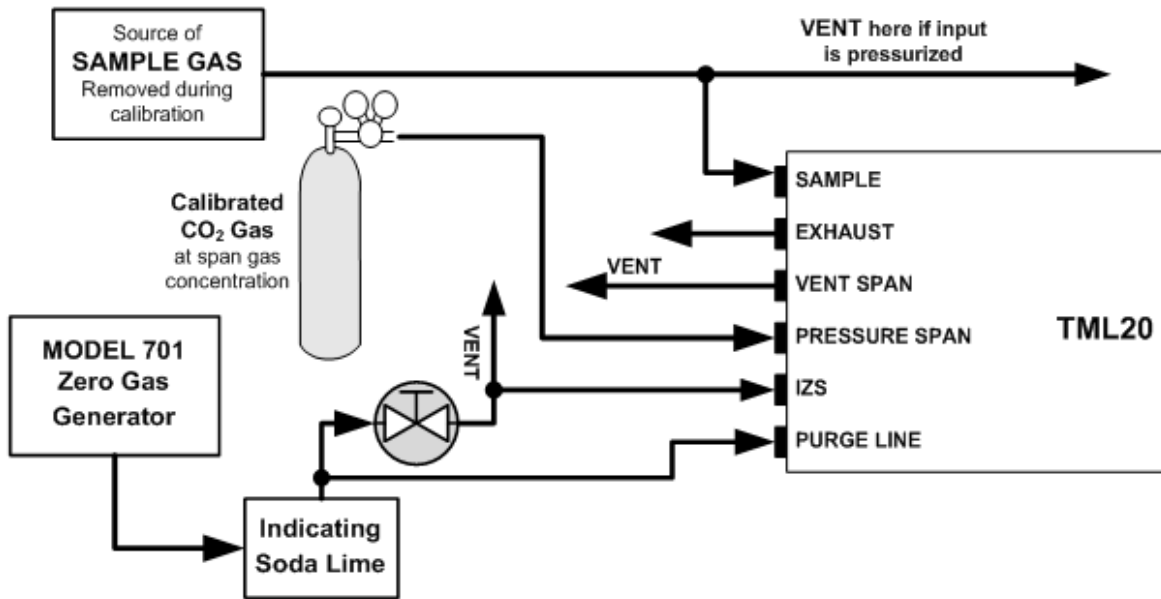
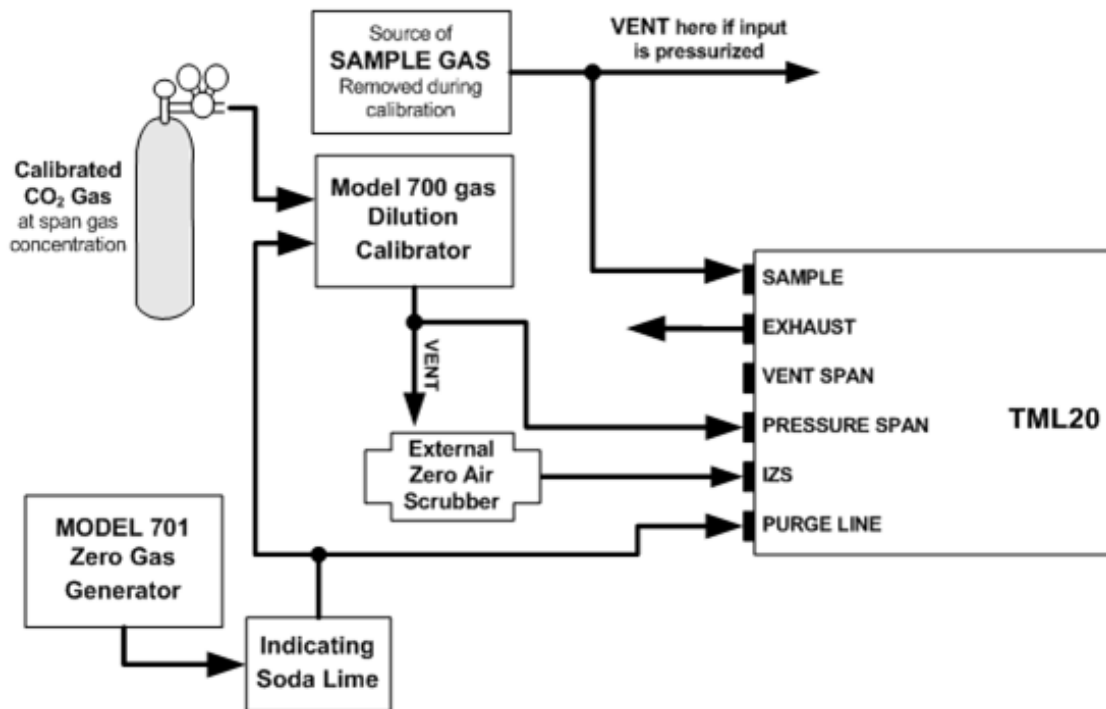

Figure 3-8: Pneumatic Connections–TML20 with Zero/Span/Shutoff Valves (OPT 50)
Figure 3-11: Pneumatic Connections–TML20 with Zero/Span Valves with External Zero air Scrubber (OPT 53)
2. Attach sources of zero air and span gas (see Figure 3-3 through Figure 3-8 inclusive).
Figure 3-8 through Figure 3-11 show the proper pneumatic connections for TML20's with various optional internal valve sets installed.